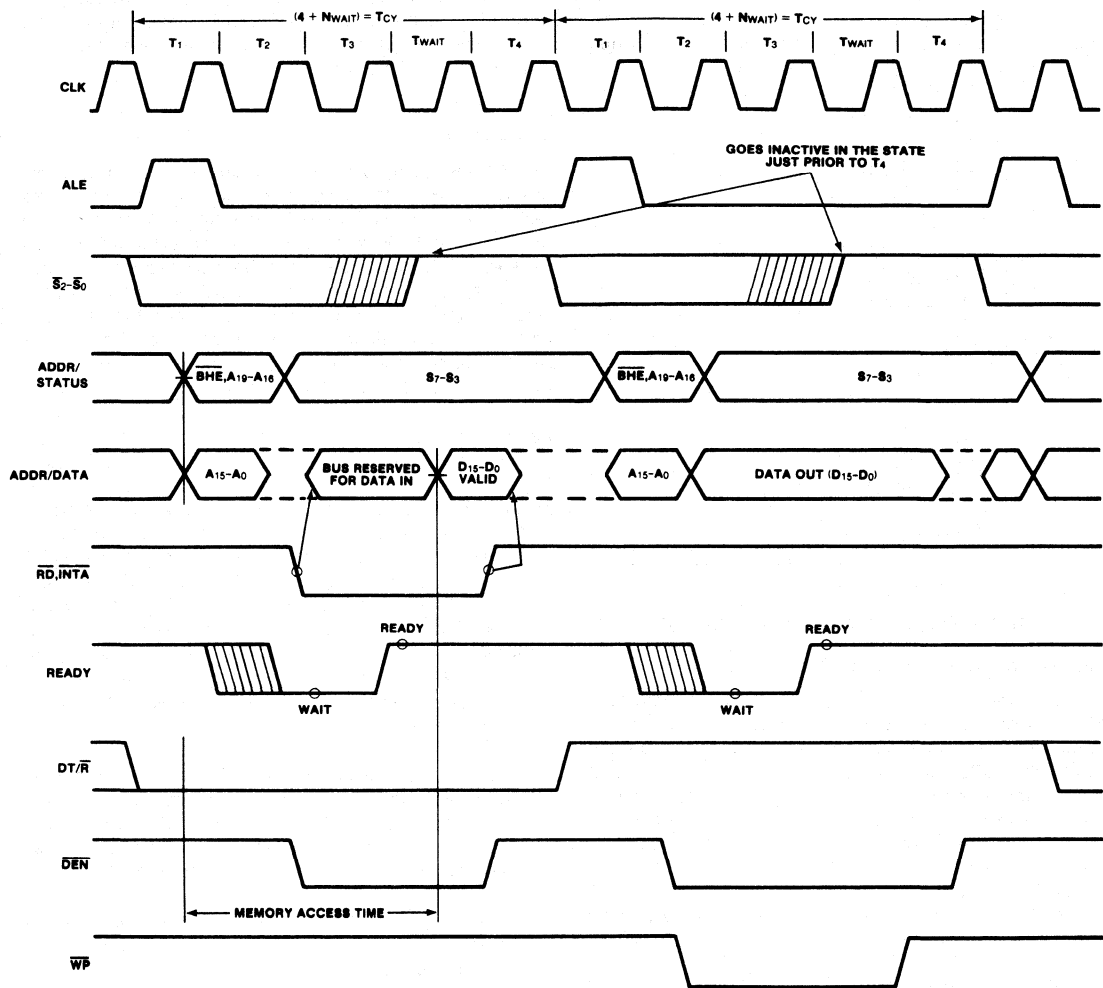
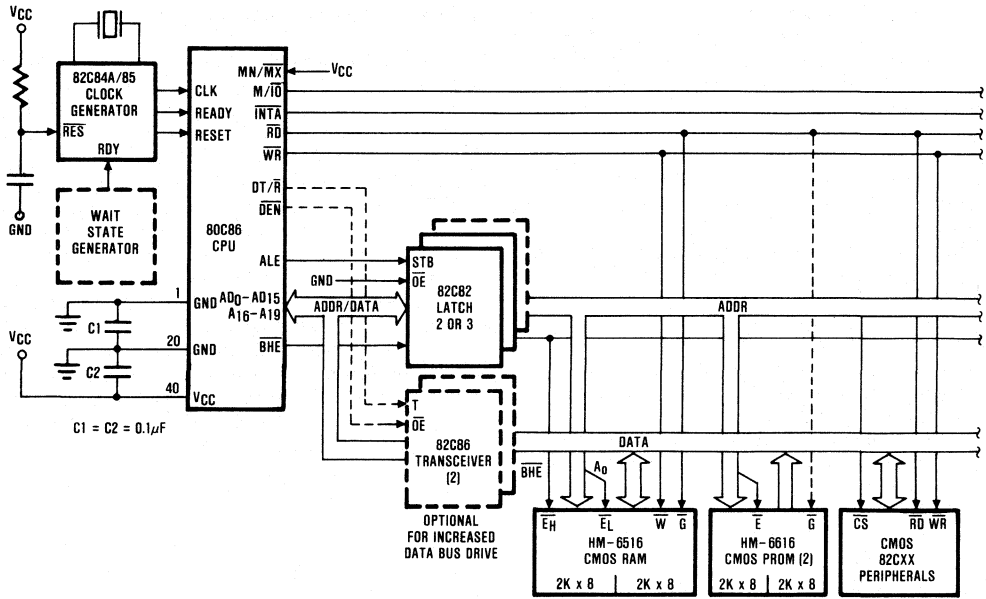

FIGURE 3. BASIC SYSTEM TIMING
FIGURE 6A. MINIMUM MODE 80C86 TYPICAL CONFIGURATION
The demultiplexed mode requires two 82C82 latches (for 64K addressability) or three 82C82 latches (for a full megabyte of addressing). An 82C86 or 82C87 transceiver can also be used if data bus buffering is required. (See Figure 6a.) The 80C86 provides DEN and DT/R to control the transceiver, and ALE to latch the addresses. This configuration of the minimum mode provides the standard demultiplexed bus structure with heavy bus buffering and relaxed bus timing requirements.
Each processor bus cycle consists of at least four CLK cycles. These are referred to as T_1 , T_2 , T_3 and T_4 (see Figure 3). The address is emitted from the processor during T_1 and data transfer occurs on the bus during T_3 and T_4 . T_2 is used primarily for changing the direction of the bus during read operations. In the event that a "NOT READY" indication is given by the addressed device, "Wait" states (TW) are inserted between T_3 and T_4 . Each inserted wait state is the same duration as a CLK cycle. Periods can occur between 80C86 driven bus cycles. These are referred to as "idle" states (T_I) or inactive CLK cycles. The processor uses these cycles for internal housekeeping and processing.
Typical system configurations for the processor operating in minimum mode and in maximum mode are shown in Figures 6A and 6B, respectively. In minimum mode, the MN/MX pin is strapped to V_{CC} and the processor emits bus control signals (e.g. \overline{RD} , \overline{WR} , etc.) directly. In maximum mode, the MN/MX pin is strapped to GND and the processor emits coded status information which the 82C88 bus controller used to generate MULTIBUSTM compatible bus control signals. Figure 3 shows the signal timing relationships.